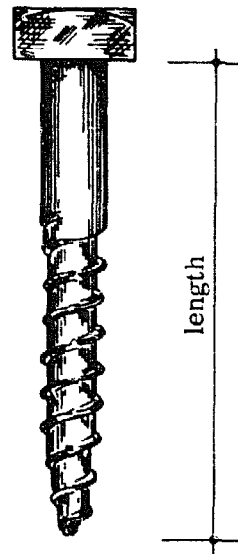

Fig. 4
- Coach screws (Fig. 4, page 210).
- **COACH SCREWS:** This is a strong screw with a square head. Unlike other wood screws, it is turned with a spanner. Always put a metal washer under the head to prevent damage to the wood surface. The length is measured from the point to the underside of the head (Fig. 4).